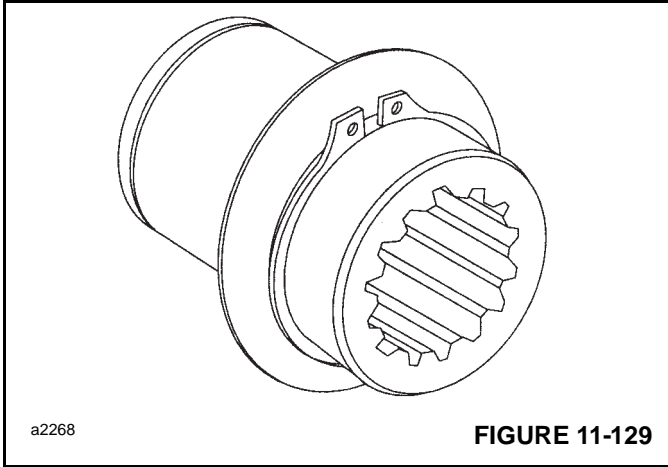

FIGURE 11-129
4. Next, install a sprag bushing retainer, then a snap ring on the inner race (Figure 11-129). Be sure the snap ring is seated in the snap ring groove.